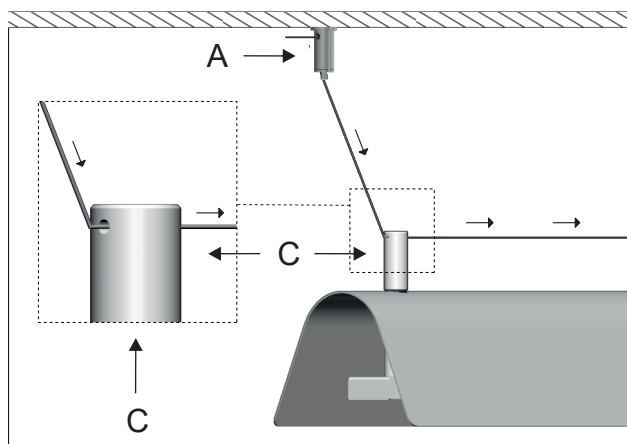

Figure 3
3 - Run the steel cable from the ceiling through the outer hole of the cable cap (C). Figure 3